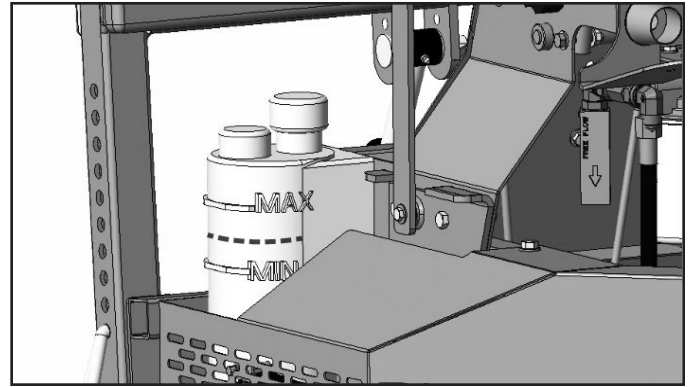

Figure 2: Hydraulic oil reservoir location
4. To check the hydraulic fluid use the hydraulic reservoir located on the back right side of the Force. The level should fall between the min and max lines of the transparent reservoir. Use SAE 5w-40 motor oil such as Mobil DELVAC 1 ESP (Diesel Engine Oil). Refer to **Figure 2** for reference.